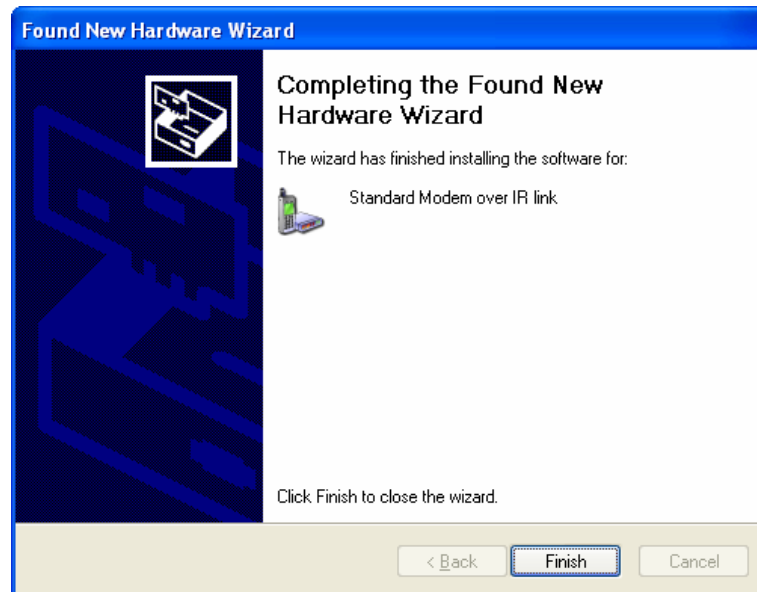

Figure 12 : 'Found New Hardware Wizard' completed
- Once the wizard completed the installation, (Figure 12) click **Finish** to close the wizard.